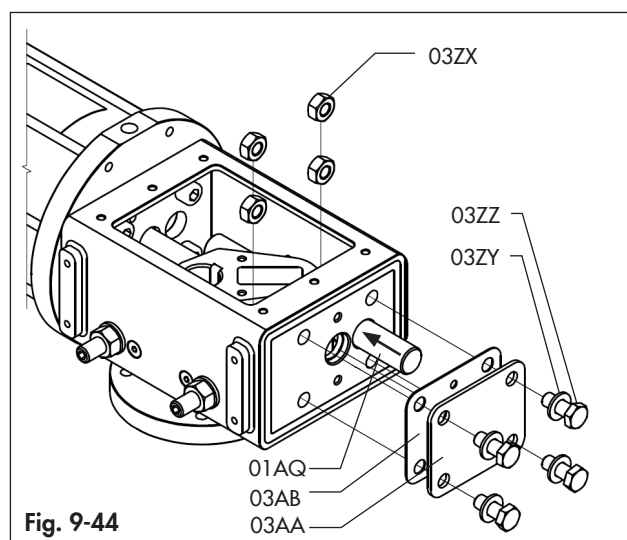

Fig. 9-44
- Place the yoke assembly inside the housing. (Fig 9-44).
- Apply the thread locker Loxeal 83•21 or equivalent and tighten the screw (03ZZ), the washers (03ZY) and nuts (03ZX) (Fig. 9-44).